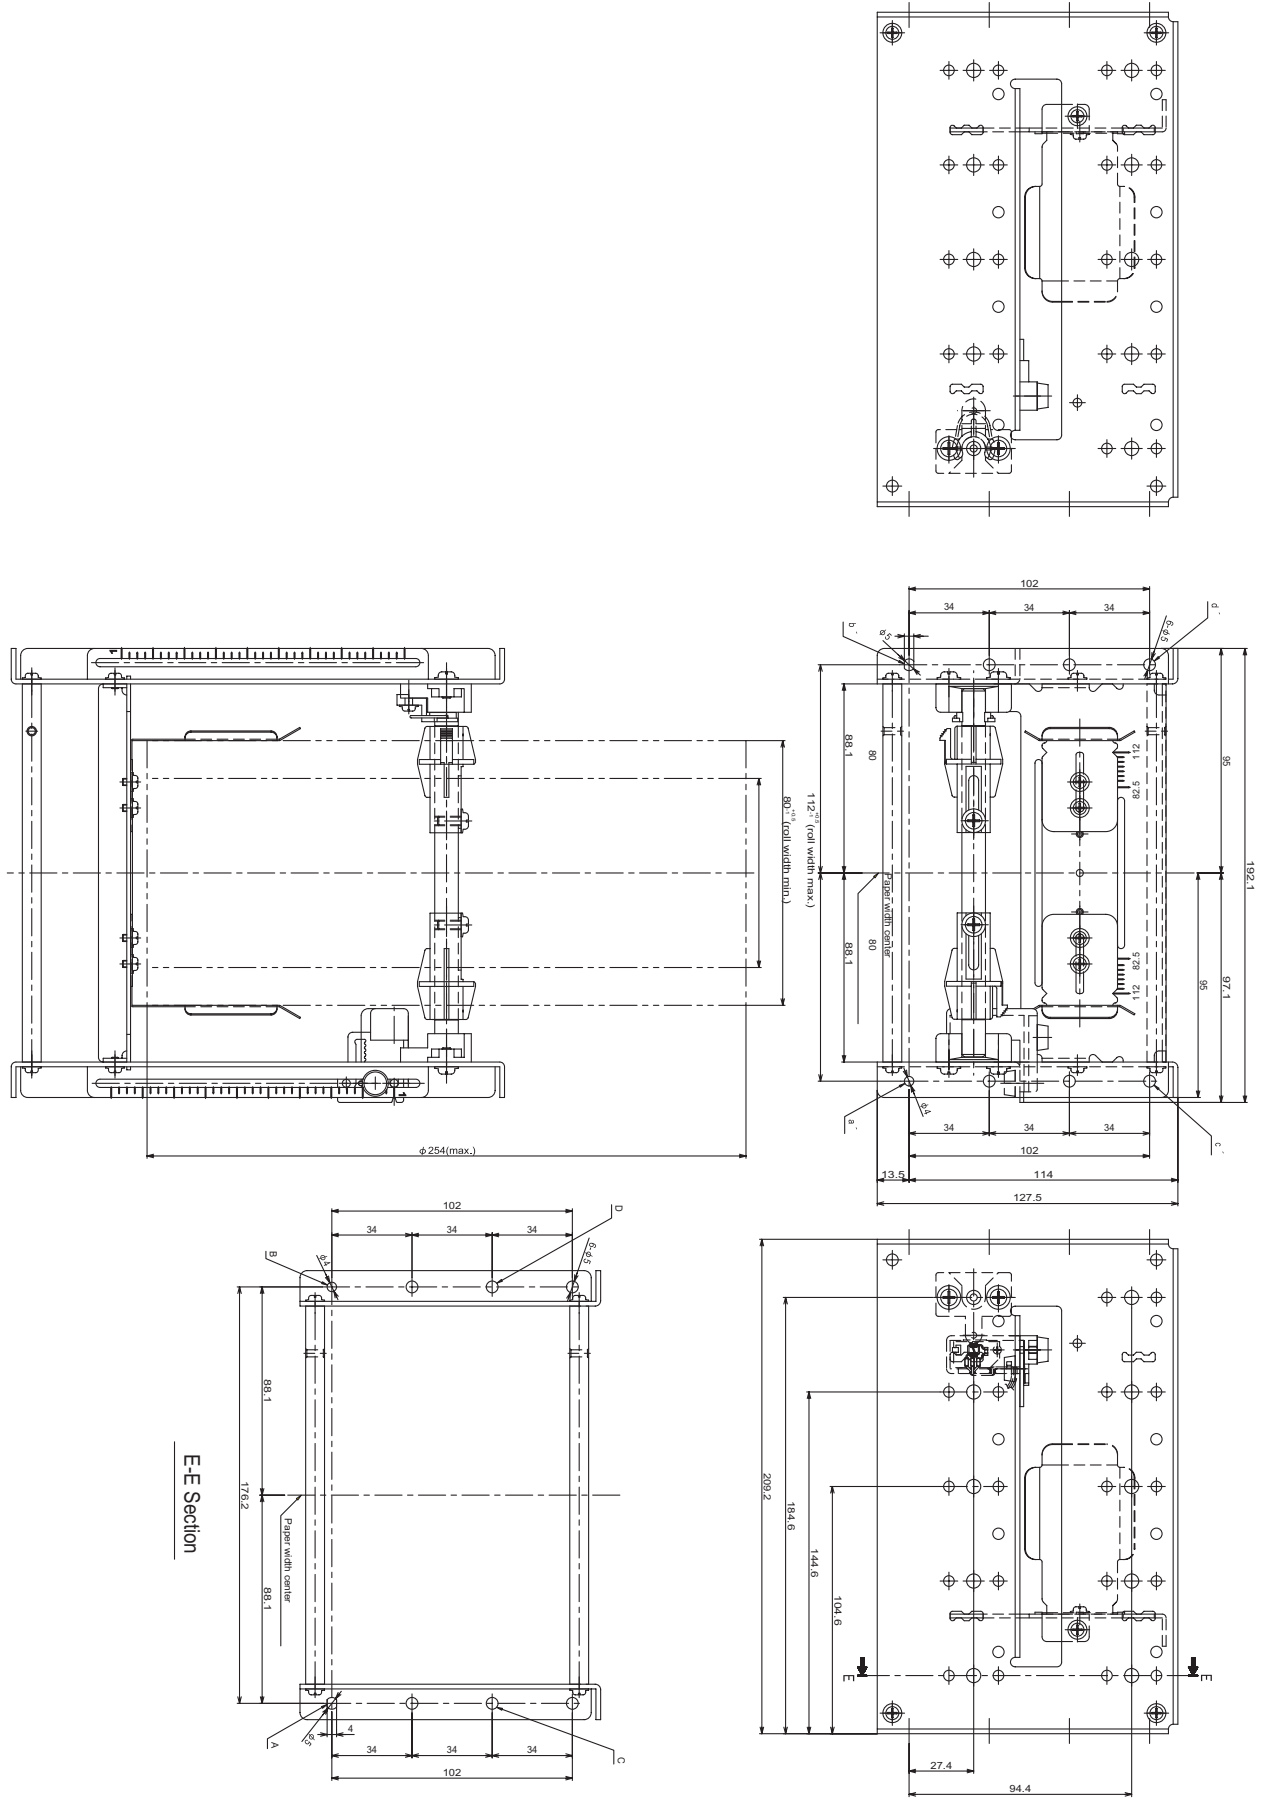

Fig. 7.2 RHU-T900 External Dimensions Diagrams
Fig. 7.2 on the separate sheet shows an external drawing of use of the high volume paper roll supply (RHU-T900).
3) The external drawing of Fig. 7.2 is an example of the assembly. Be aware that there are some parts that are not included in the RHU-T900.
Use the four holes A, B, C and D shown in the external drawing of Fig. 7.2 on the separate sheet, to fasten the unit.
Use the printer unit holes a, b, c and d (see Fig. 4.1.2 on the separate sheet) and the RHU-T900 unit holes a', b', c' and d' (see Fig. 7.2 on the separate sheet) to fasten both units. When doing so, align a with a', b with b', c with c' and d with d' for assembly.